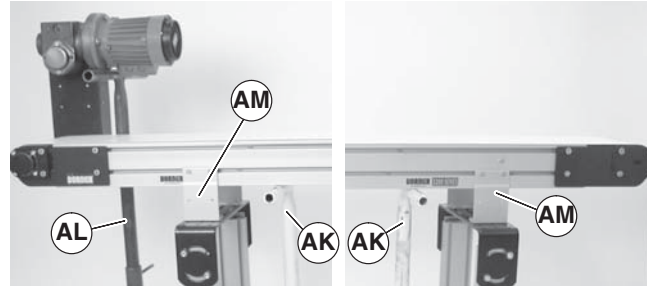

Figure 20
- Place temporary support stands (Figure 20, item AK) at both ends of the conveyor. Place an additional support stand under the drive motor (AL), if equipped. See WARNING.
- Remove mounting brackets (Figure 20, item AM) from one side of conveyor. (Reverse steps 3 & 4 of “Mounting Brackets” section on page 7).
1. Ensure temporary support stands (Figure 20, item AK) are placed at both ends of the conveyor. Place an additional support stand under the drive motor (AL), if equipped. See WARNING.